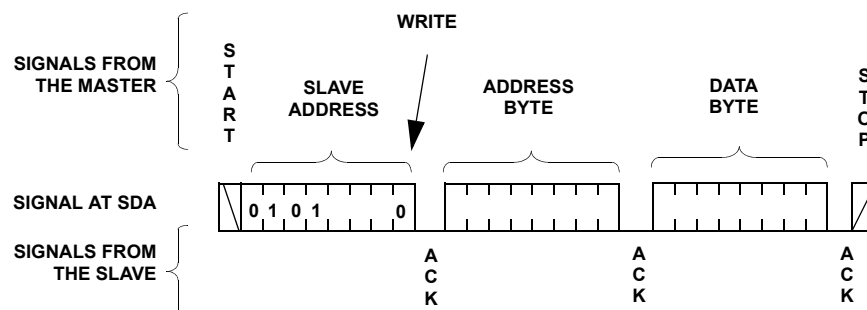
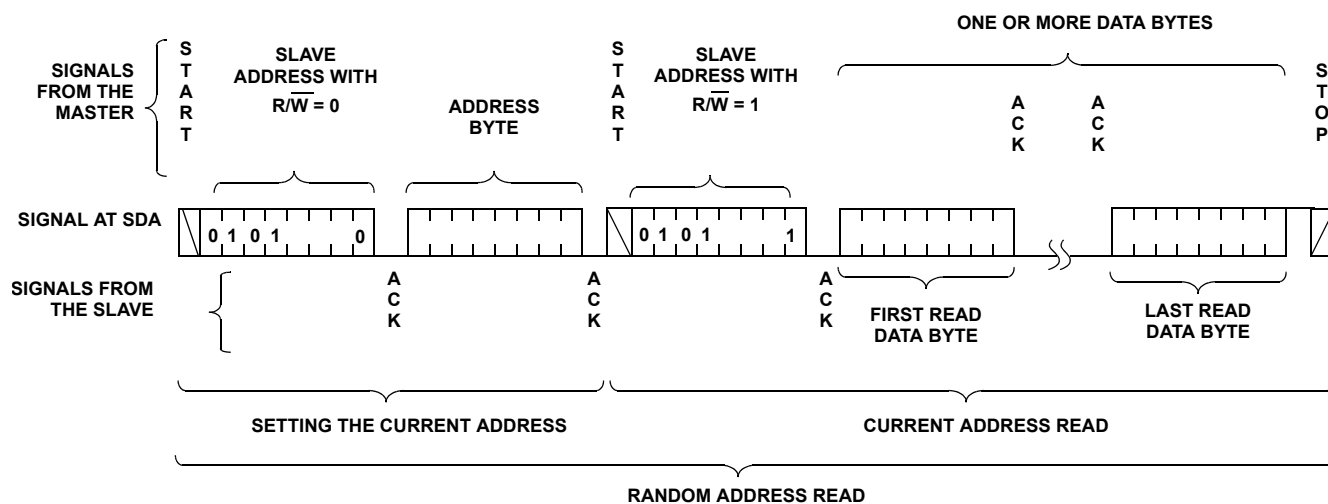

FIGURE 7. BYTE WRITE SEQUENCE
FIGURE 9. MOVE/READ SEQUENCE
14. Access the desired DR or WCR using a new write or read command (see Figure 7 for write and Figure 9 for read.)
For any Byte Write operation, the X9252 requires the Slave Address byte, an Address Byte, and a Data Byte (see Figure 7). After each of them, the X9252 responds with an ACK. The master then terminates the transfer by generating a STOP condition. At this time, if the write operation is to a volatile register (WCR, or SR), the X9252 is ready for the next read or write operation. If the write operation is to a nonvolatile register (DR), and the $\overline{WP}$ pin is high, the X9252 begins the internal write cycle to the nonvolatile memory. During the internal nonvolatile write cycle, the X9252 does not respond to any requests from the master. The SDA output is at high impedance.
The Move/Read operation simultaneously reads the contents of a Data Register (DR) and moves the contents into the corresponding DCP's WCR and the WCRs of all DCPs are updated with the content of their corresponding DR. Move/Read operation consists of a one byte, or three byte instruction followed by one or more Data Bytes (see Figure 9). To read an arbitrary byte, the master initiates the operation issuing the following sequence: a START, the Slave Address byte with the R/W bit set to "0", an Address Byte, a second START, and a second Slave Address byte with the R/W bit set to "1". After each of the three bytes, the X9252 responds with an ACK. Then the X9252 transmits Data Bytes